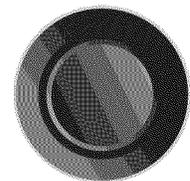

Figure 5
2. Press in the Warmer Zone push button (Figure 5).